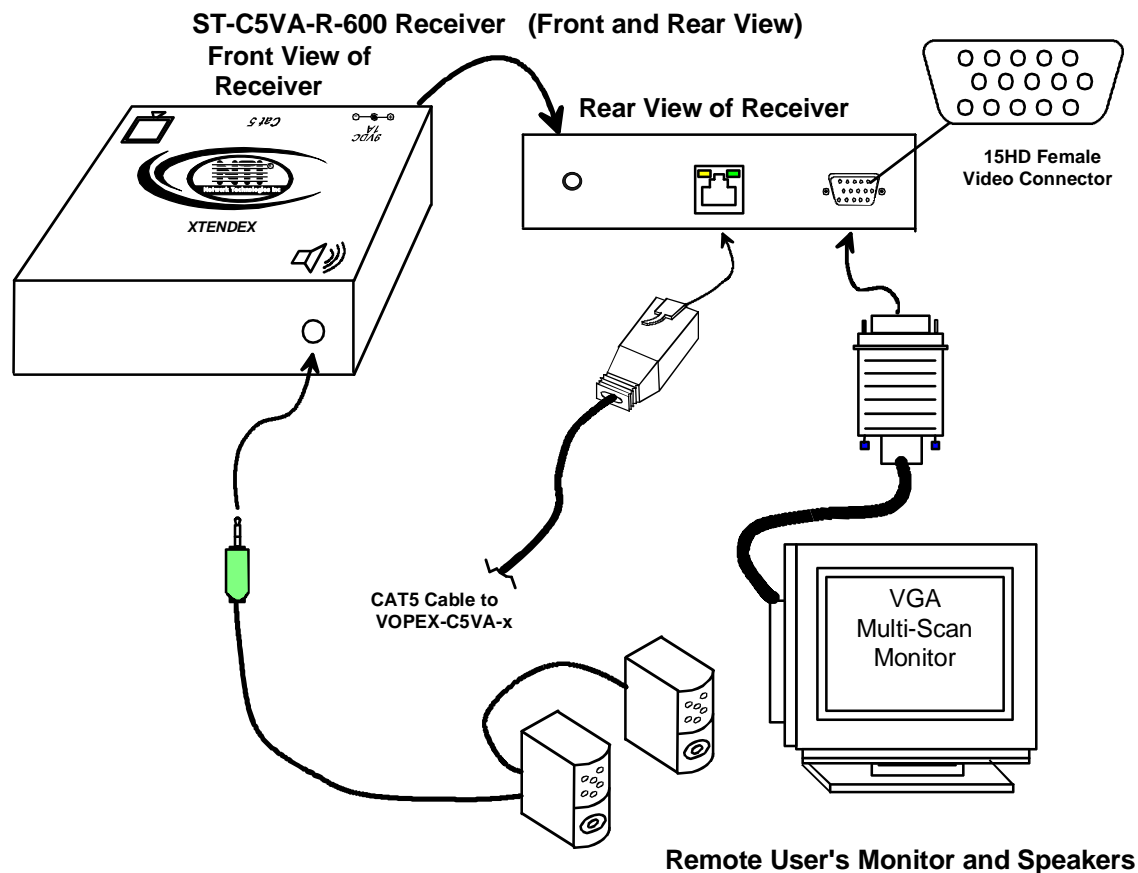

Figure 5- Connect the Extended Components to the ST-C5VA-R-600 Receiver
3. Connect the remote user's speakers to the 3.5mm female stereo connector on the Receiver (see Fig. 5).
4. Make sure the CAT5 cable has been installed in accordance with the "Preparation for Installation" instructions on page 5. Connect the CAT5 cable to the "Cat 5" port on the Receiver. (See Fig. 5) When properly inserted the CAT5 cable end should snap into place.